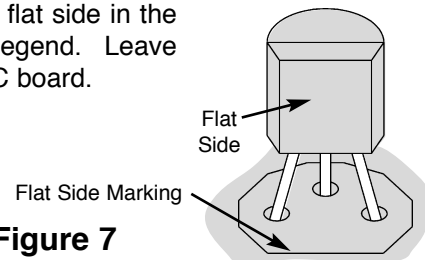

Figure 7
- ☐ Q2 - 2N3904 Transistor (see Figure 7)
- ☐ Q1 - 2N3906 Transistor (see Figure 7)
- ☐ Q4 - 2N3904 Transistor (see Figure 7)
- ☐ Q5 - 2N3906 Transistor (see Figure 7)
- ☐ Q3 - 2N3906 Transistor (see Figure 7)